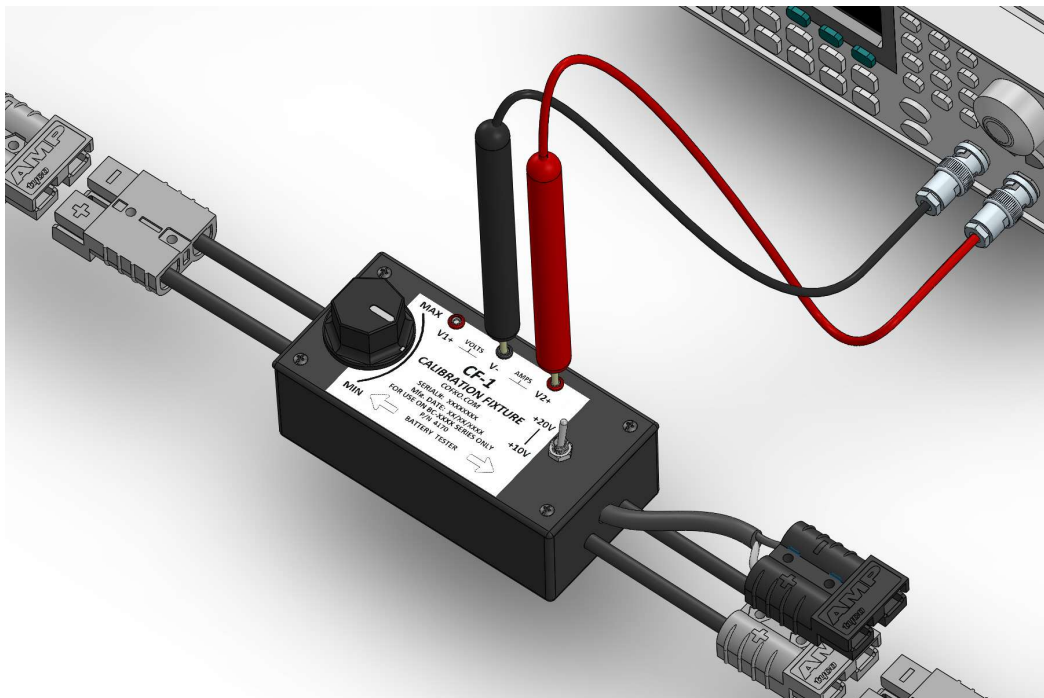

Figure 6
7. Connect voltmeter 2 input leads to the CF-1 test jacks labeled V2+ (RED) and V- (BLACK). The voltmeter positive input lead connects to V2+ and the negative COMMON lead to V-. Set the voltmeter to read DC millivolts. See Figure 6.